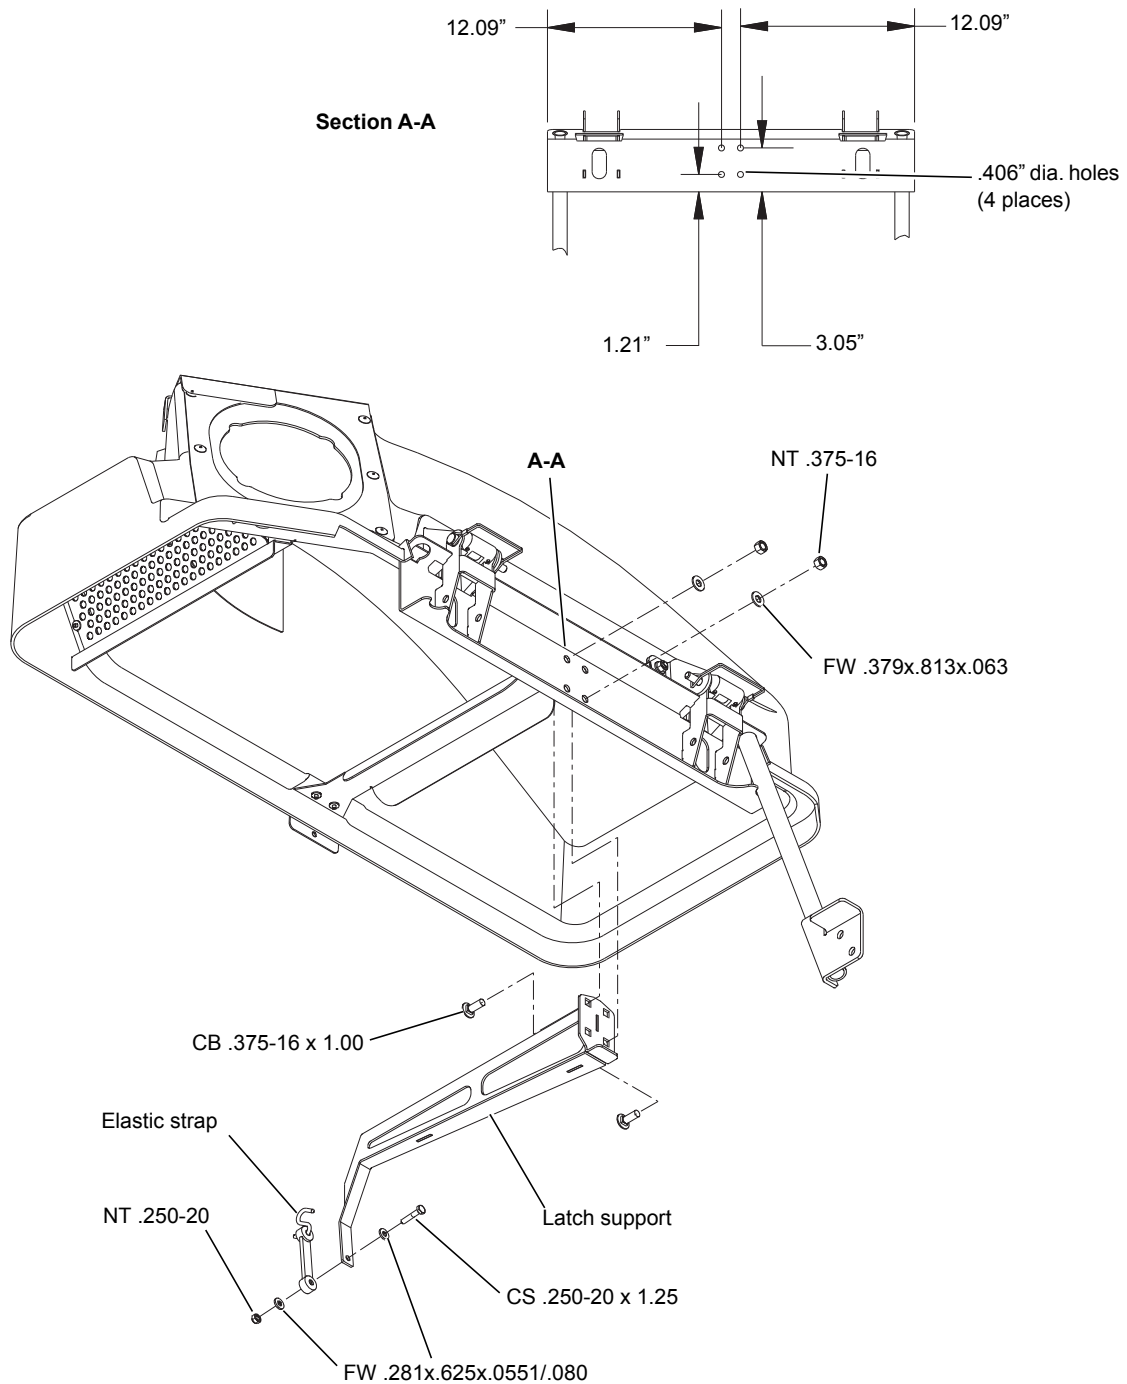

Figure 3-11
16. Attach the latch support to the catcher frame as shown in Figure 3-11.
- NOTE:** If the four (4) mounting holes are not present in the catcher frame, locate and drill four (4) .406" diameter holes in the frame per Figure 3-11.
17. Attach the elastic strap to the latch support. Orientate the elastic strap as shown. Figure 3-11